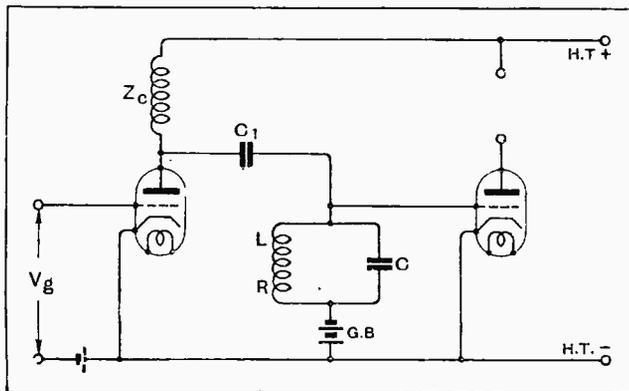

Fig. 2.—The orthodox tuned-grid coupling. The resistance  $R_1$  of Fig. 1 is replaced by a high-frequency choke  $Z_c$ .
Fig. 2 shows the whole scheme. On the left you see the four separate receivers at the central receiving station, each having its own frame aerial, its own fading-compensator, and its own H.F. amplifier and band filter. Each receiver passes on the partly amplified radio-frequency band received from its particular distant station to the common, aperiodic H.F. power amplifier (3), which still further amplifies the mixture and passes it on by line (4) to the ultra-short transmitter (7); losses on the way are made up for by the aperiodic repeater at (5). The apparatus marked (6) is a complication
Fig. 2.—Schematic diagram of multiple rebroadcast arrangement. On the left are four separate receivers at the central receiving station which feed into an aperiodic H.F. power amplifier 3. This is followed by a repeater 5 and an ultra-short-wave transmitter 7.
as possible to all high frequencies over the range of wavelengths to be received; that is to say, the resistance  $R_1$  must be replaced by a high-frequency choke. When this is done the circuit becomes as shown in Fig. 2.
The simple equivalent A.C. circuit corresponding to the choke-capacity-tuned grid coupling is indicated in Fig. 3 (a), where  $R_a$  represents the A.C. resistance of the first valve,  $Z_c$  the impedance of the choke in its anode circuit, and LRC the tuned grid circuit itself. In this equivalent circuit the coupling condenser  $C_1$  in Fig. 2 would normally have to be included at the point marked Y in Fig. 3 (a). But as the capacity value of this condenser is chosen so that its reactance at all operating frequencies is small compared with the dynamic resistance of the tuned circuit, the condenser may be omitted from the equivalent circuit without making any appreciable difference to the calculated value of the voltage amplification obtained, whilst at the same time greatly simplifying the calculation.